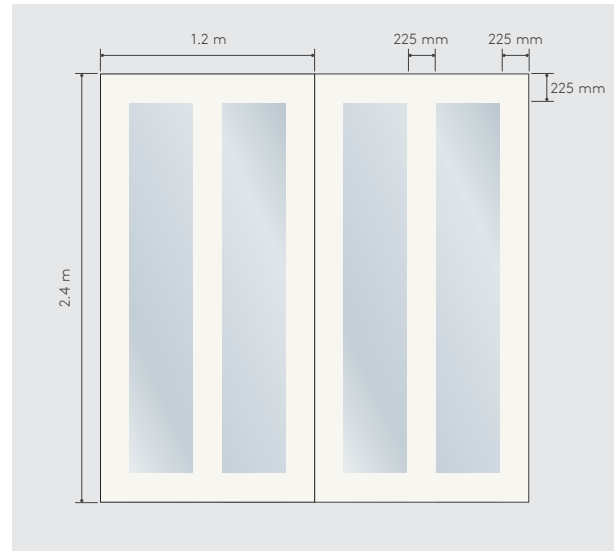

Figure 5: A bonding agent must be applied around the perimeter and down the centre of the board
- A generous coat of bonding agent must be applied when using gypsum / drywall based adhesives. The bonding agent should be applied onto the surface of the foil, following the pattern in Figure 5. A 9 inch / 225 mm standard paint roller should be used to roll bonding agent (going around the foil, back and forth 2-3 times in one application), ensuring a generous amount of bonding agent is applied around the perimeter and down the centre of the boards (to coincide with the positioning of the dabs of adhesive).